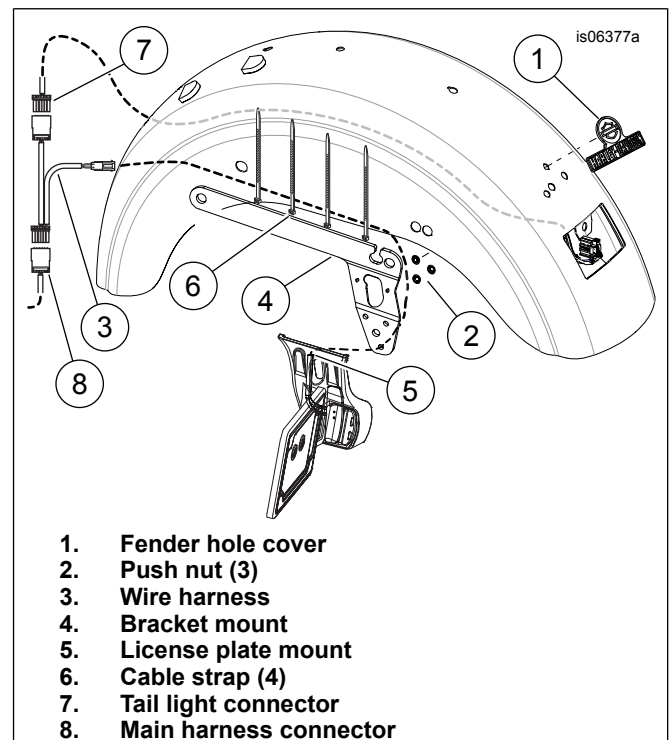
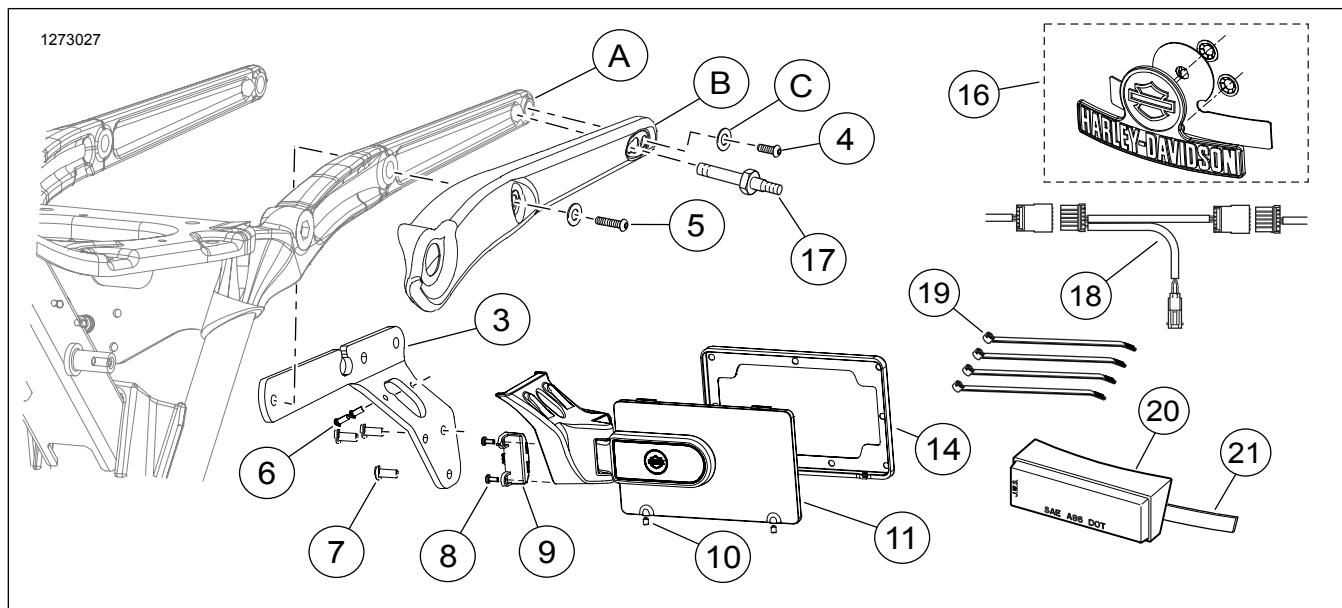

Figure 1. Wire Harness Routing and Fender Hole Cover
Figure 4. Service Parts: Side Mount License Plate Kit
See Figure 4 and Table 1.
3. See Figure 4. Remove the frame rail cover mounting screws and turn signal nut from the left side of the motorcycle. Remove the frame rail cover (B).
1. See Figure 1. Install the fender hole cover (1), and attach to the fender with push nuts (2).
2. Install left side turn signal mounting bolt (17) and turn signal to frame rail cover (B) using service manual procedures.
3. See Figure 4. Install the light (9) to the license plate mount (11) using screws (8).
4. Install mount bracket (3).
- a. Position the mount bracket (3) between the fender and frame rail (A).
- c. Loosely install the frame rail cover (B), washers (C), and the **new** screws (4, 5) from the kit, using the longer screw in the front.
5. See Figure 1. Connect license plate light.
- b. Route the license light wire between the mount bracket (4) and the license plate mount (5).
- c. Route harness along the underside of the mount bracket (4).
- d. Use four cable ties (6) to attach the wires to the mount bracket.
- e. **OE license plate mount included light:** Connect the new license plate wire to the license plate light connector on the motorcycle harness. **2014 and later:** Use kit harness (3) as an adapter leaving the extra connector loose.
- f. **Connector is not present on motorcycle harness:** Connect the correct size kit wiring harness (3) to the rear fender connectors (7, 8) for the tail lights. Connect the light wire to the harness.
6. See Figure 4. Assemble the license plate mount (11) to the mount bracket with long screws (7). Tighten.